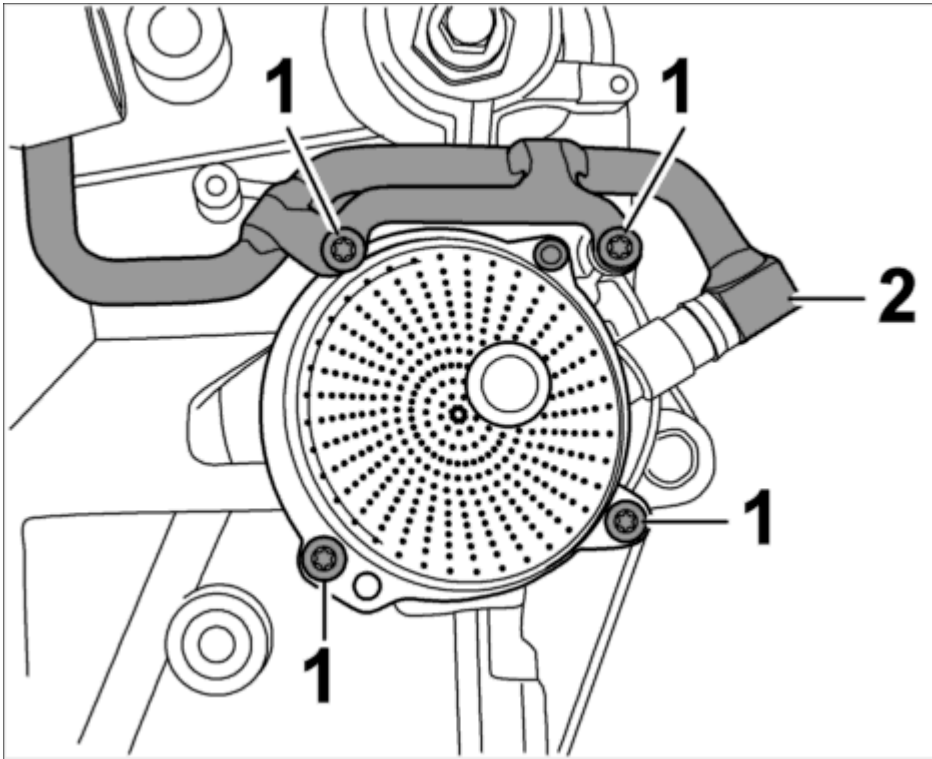

Fig. 208: Tandem pump side 4 -6
8. Mount the oil suction pump or tandem pump with four new, micro-self-locking Torx screws **-1-** . Replace O-rings on the pumps and the vacuum line **-2-** . Grease O-rings with Optimol MP3. --> **Tightening torque: 10 (7.5 ftlb.) Nm** . See **Fig. 208**.